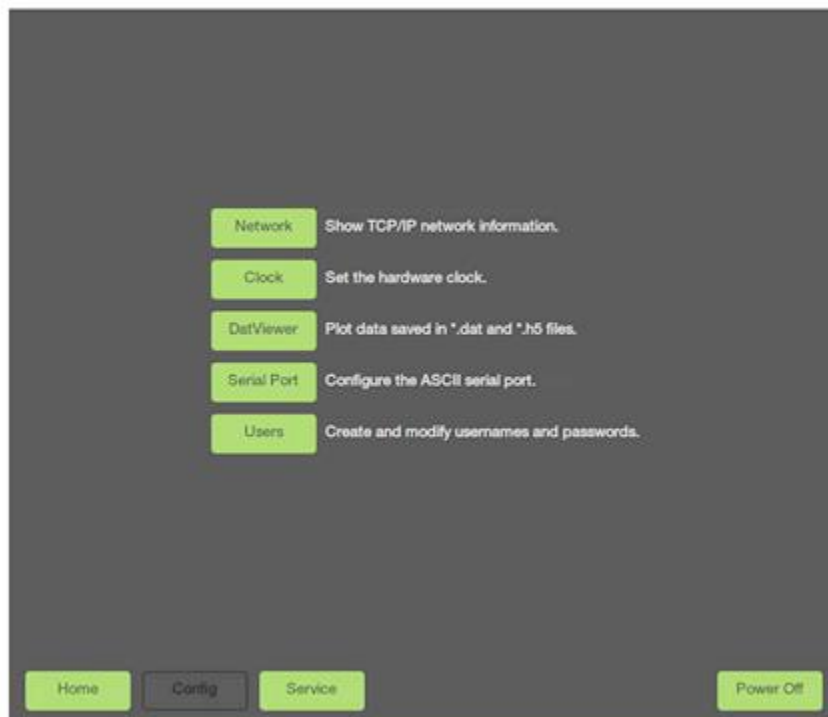

Figure 28: The Config Screen
4. The *Configuration Menu* displays. See Figure 28.
Click on **Clock** (Figure 28).
Click on Serial Port on the Config screen (Figure 28) to access the Serial Port Dialog. The serial port dialog lets you change the baud rate. Figure 33 shows the serial port dialog.